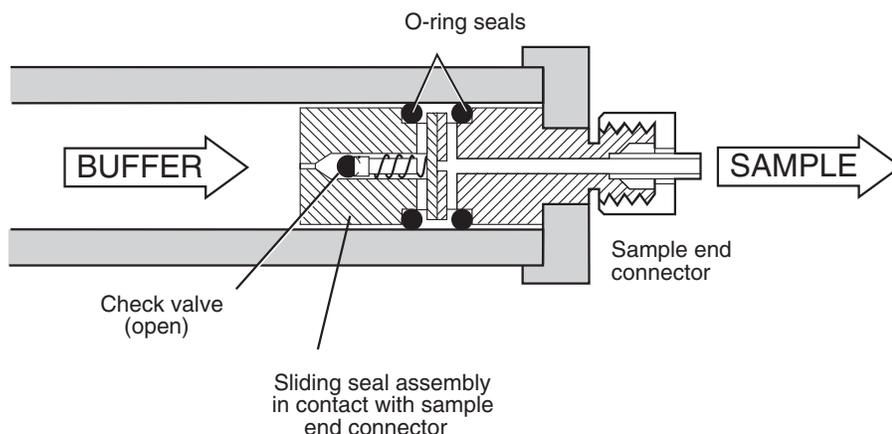

Fig. 3. Flush phase. (Check valve is open.)
**Flush phase** When the sliding seal assembly contacts the sample end cap, the check valve opens and buffer passes through the sliding seal. Sample is completely flushed from the DynaLoop (Figure 3) onto the column in a concentrated band. When the sample is loaded onto the column and sufficient buffer has flushed all sample from the loop and check valve, the AVR7-3 injection valve will automatically switch to LOAD after the programmed sample load volume is injected. The gradient pump is now connected directly to the column, facilitating accurate gradient elutions.